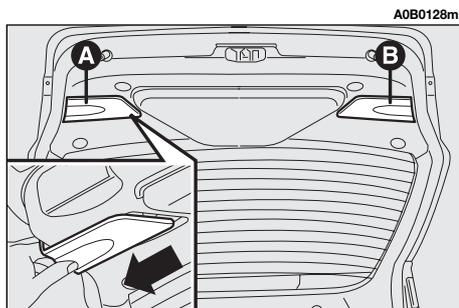

fig. 48
- Remove the cover (**A** or **B-fig. 48**) in correspondence with the light concerned, withdrawing it at the side.
- Refit the lid (**A** or **B-fig. 48**) inserting it from outside until it fits in.